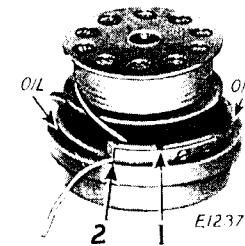
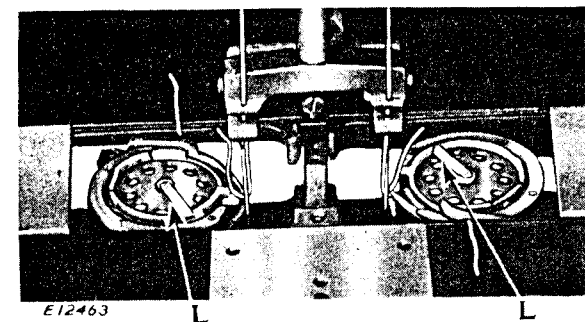

Fig. 10. Direction of Thread on Bobbin
Fig. 11. Bobbin Cases Threaded
Apply a few drops of oil four times daily to the two felt pads in the side wall of each bobbin case as illustrated in Fig. 10.
Hold each bobbin between the thumb and forefinger with the thread drawing on the bottom from left to right as shown in Fig. 10
and place it on the center stud of the bobbin case, then push down the latch (L, Fig. 11). Draw the thread into the slot (1, Fig. 10) and under the tension spring (2) as shown in Figs. 10 and 11, leaving a loose end of thread about two inches long above the slide. When closing the slide plates, leave just enough space for the threads to pass through.